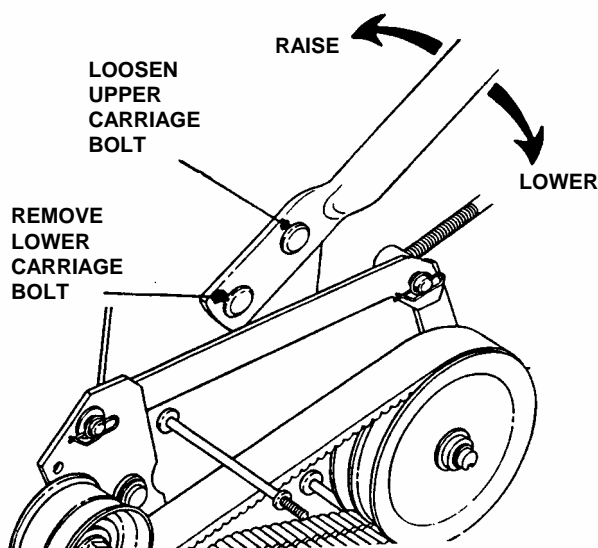

FIGURE 5.4
1. Loosen the upper carriage bolt and nut on both sides of handlebar. See Figure 5.4.
4. Install the carriage bolt and nut in the lower hole in handlebar and securely tighten nut. See Figure 5.4.